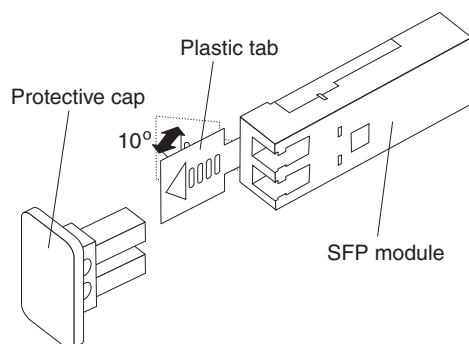

Figure 25. Unlocking the SFP module latch - plastic variety
- For SFP modules that contain plastic tabs, unlock the SFP module latch by pulling the plastic tab as shown in Figure 25 on page 39.